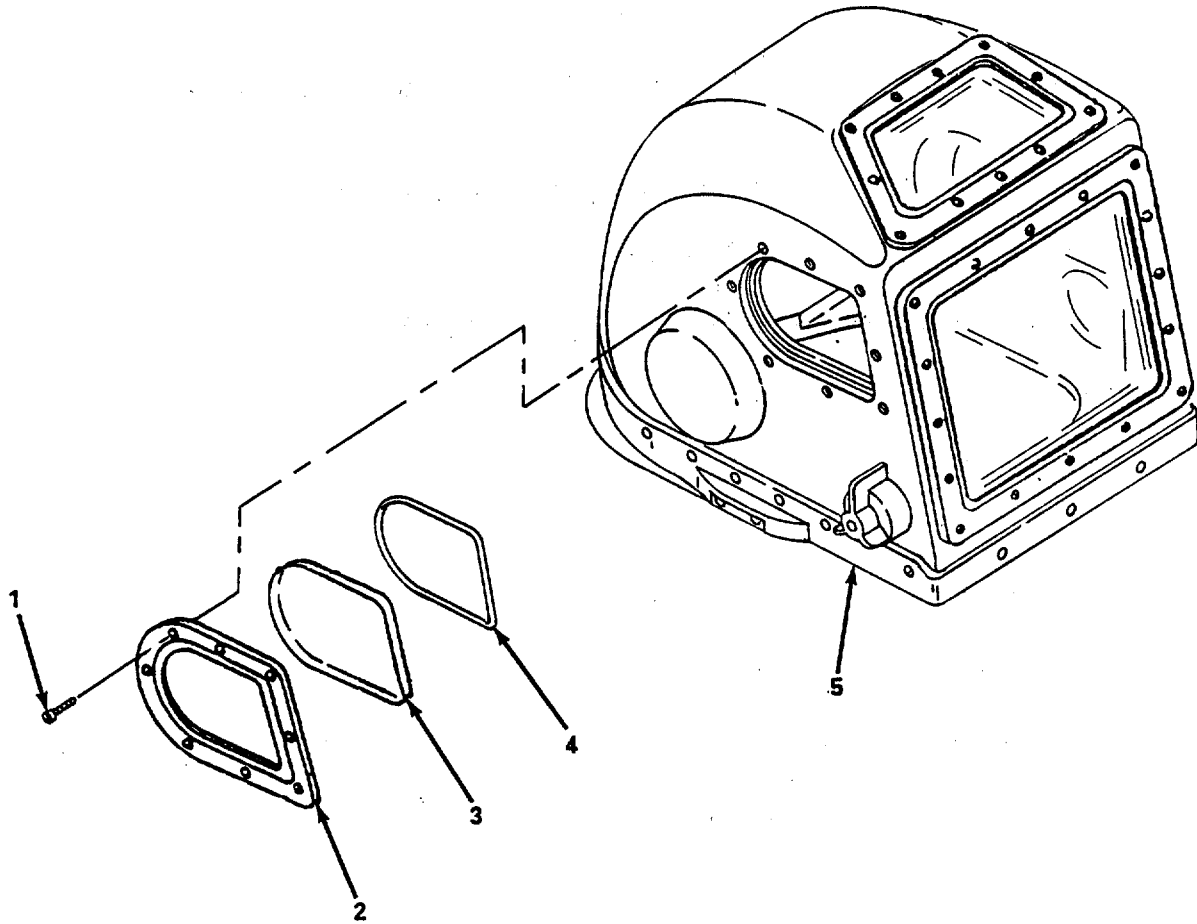

Figure 5-6. Side Viewport, Replace.
- b. *Replace (Side)*. (figure 5-6)